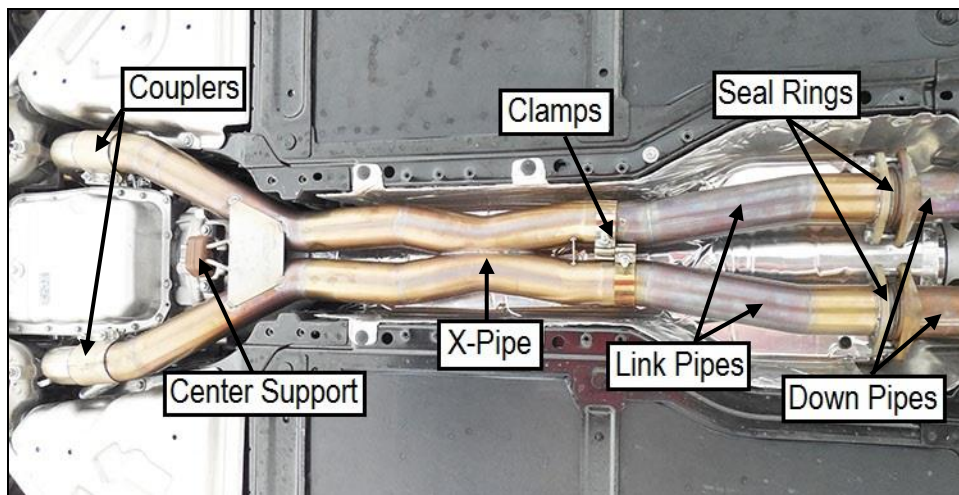

Figure 6
2. Install the 76mm band clamps onto each inlet pipe of the Blackheart X-pipe (expanded end with notches). The clamps need to be configured so the threaded stud of the clamp is positioned to align with the cut out in the lower skid plate (**Figure 6**).
3. Install the RIGHT link pipe (long link pipe) into the X-pipe's short expanded end (**Figure 6**). Tighten the clamp to allow for adjustment.
4. Install the LEFT link pipe (short link pipe) into the X-pipe's long expanded end (**Figure 6**). Tighten the clamp to allow for adjustment.
6. Install the X-pipe with link pipes onto the down pipes. Install the 10mm x 60mm bolts and flange nuts. Tighten the nuts to allow for adjustment. Support the X-pipe assembly. Install the center support hanger assembly and tighten the (x2) 13mm bolts (**Figure 6**). Adjust the position of the link pipes if necessary and tighten the (x4) nuts.
7. Install the 3" Torca couplers onto the outlet of the X-pipe with the bolts towards the transmission and nuts facing down (**Figure 6**).